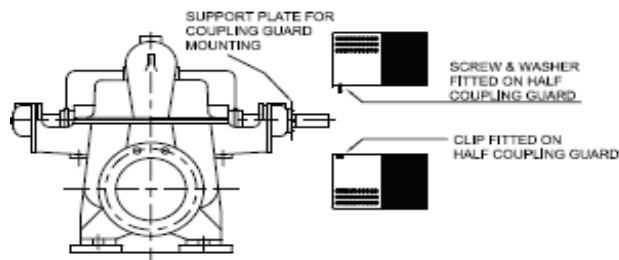

Figure 6 - Coupler Guard Installation
- Fasten coupler guard hardware, see Figure 6..